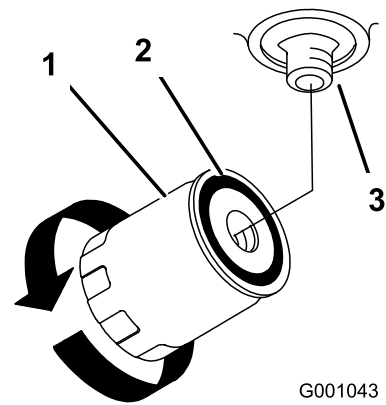

Figure 71
4. Remove the old filter and wipe the filter-adapter gasket surface clean (Figure 71).
7. Turn the filter clockwise until the rubber gasket contacts the filter adapter and tighten the filter an additional 1/2 turn (Figure 71).